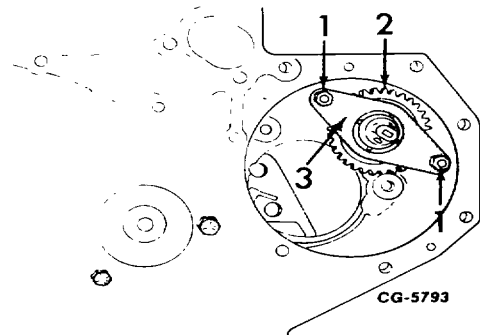

Figure 15. - Removing Tachometer Drive Gear (UTDS* Model 100 Fuel Injection Pumps)
1. Remove the two nuts (1, Fig. 15) and thrust plate (3), as shown.
2. Remove the spacers (from the mounting studs) and remove the gear (2, Fig. 15) from the dowel in the injection pump mounting adapter.